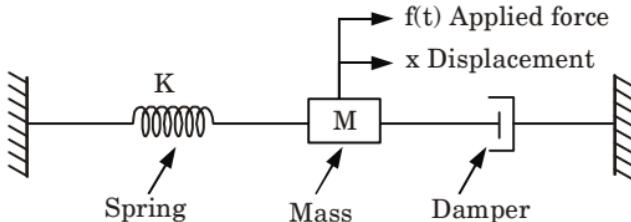

Fig. 1.3.1. Translational spring-mass-damper system.
1. A translational spring-mass-damper system is shown in Fig. 1.3.1.